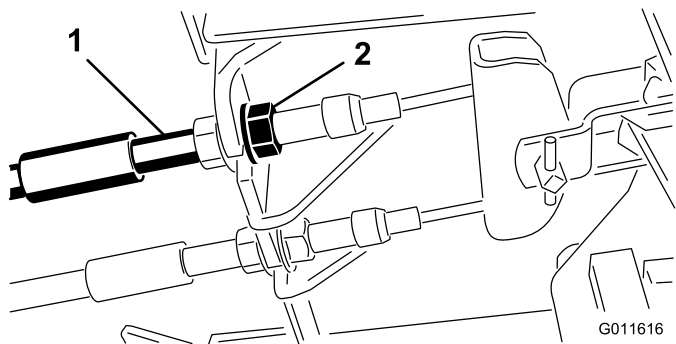

Figure 56
1. To reduce free travel of the brake pedals, tighten the brakes by loosening the front nut on the threaded end of the brake cable (Figure 56).